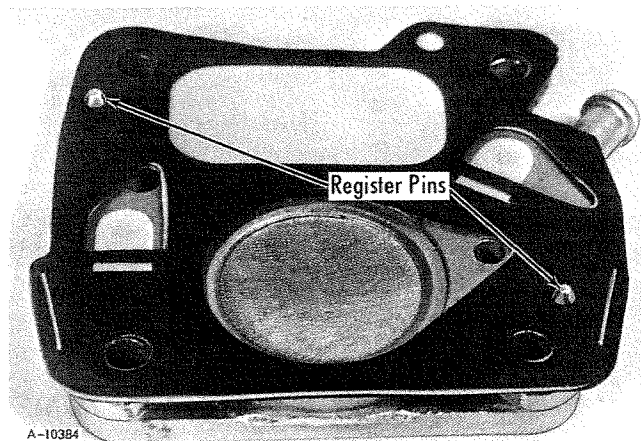

FIGURE 27
- Place the fuel pump diaphragm on the fuel pump body with the diaphragm registered on the two centering pins of the body (Figure 27). Then place the body and diaphragm on the diaphragm plate with the pins again in register on the plate.